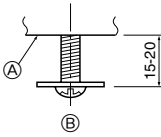
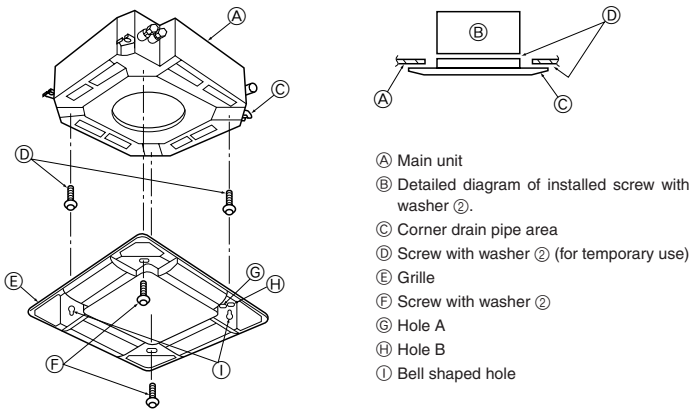

Fig. 5-5
Fig. 5-6
5.4.1. Preparations (Fig. 5-5)
- Install the two enclosed screws with washer ② in the main unit (at the corner drain pipe area and at the opposite corner) as shown in the diagram.
5.4.2. Temporary installation of the grille (Fig. 5-6)